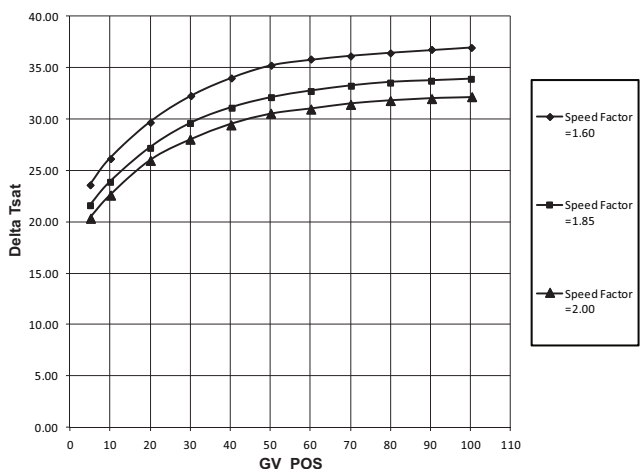

Fig. 39 — Effect of SURGE LINE SPEED FACTOR on Surge Prevention
- Surge Line Speed Factor determines how much the surge line moves to accommodate lower compressor speed. As compressor speed drops the ΔT values on the surge prevention line decrease. Increasing the Speed Factor causes Surge Prevention to activate sooner as the compressor speed drops. (See Fig. 39.)